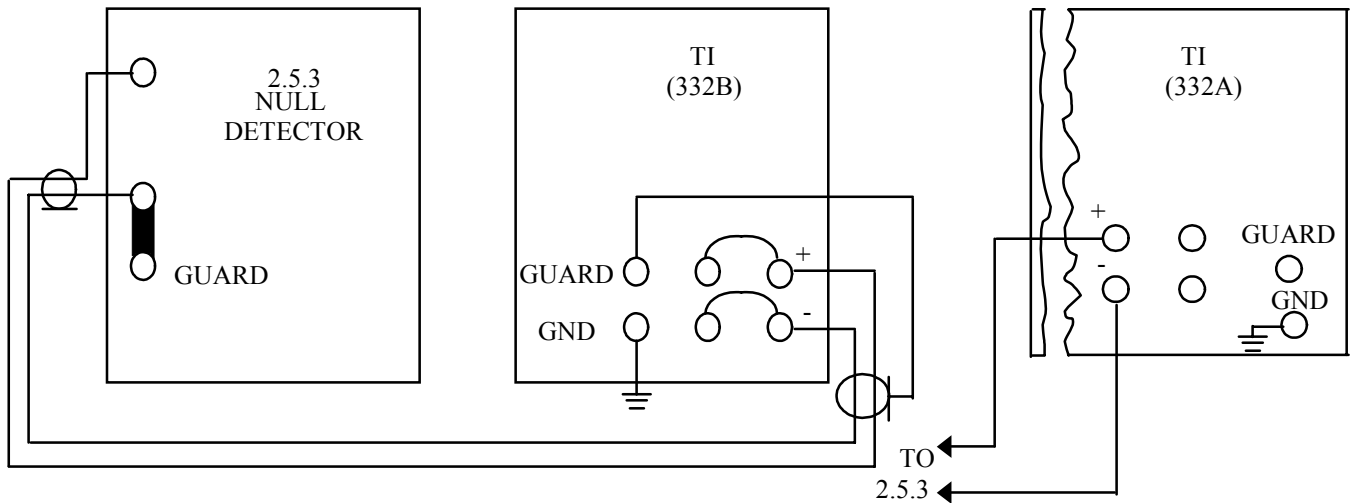

Figure 2. Zero Output Test Configuration
- 4.3.4 Connect the equipment as shown in Figure 2.